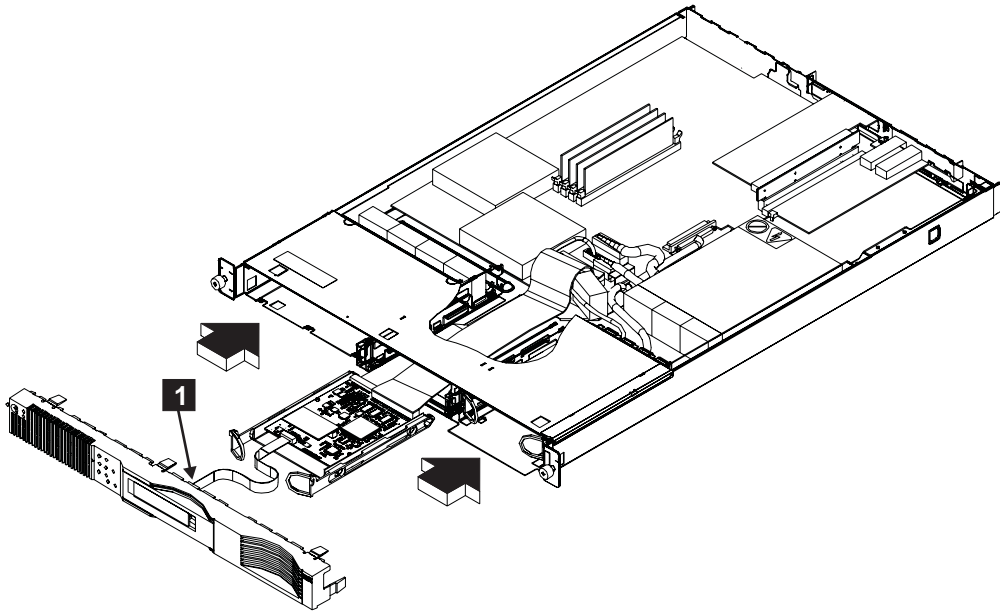

Figure 233. Replacing the front panel
1. Connect the cable **1** to the front panel. See Figure 233.